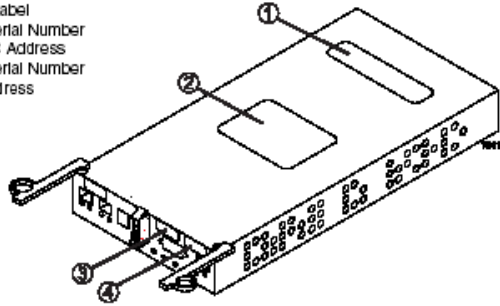

FIGURE 7-19 Label Locations on the Controller
- 11. Update the following information on the new controller labels and attach the labels to the replacement controller. Figure 7-19 shows the locations of the labels.**